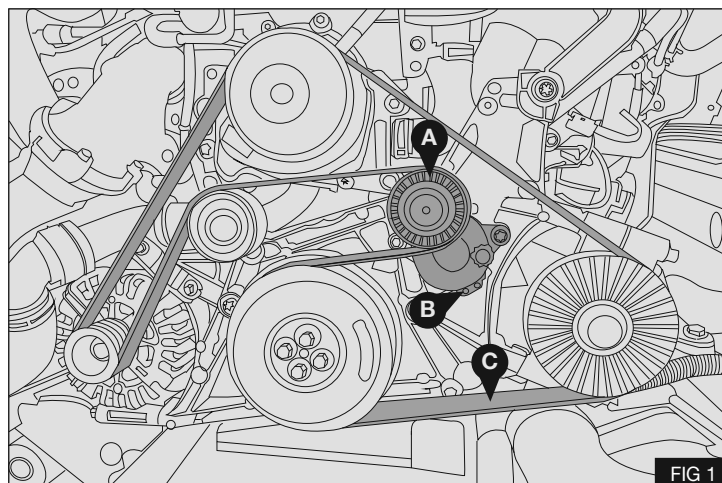

FIG 1
1. Turn the automatic belt tensioner (A) anticlockwise and insert a 4mm locking pin in position (B) – Fig 1
2. Remove and discard the drive belt (C) – Fig 1